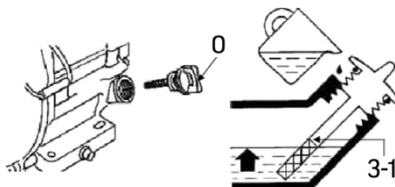

Fig. 3
3. Remove the dipstick (0) and wipe with a clean cloth (Fig. 3).
4. Insert the dipstick into the filler neck without screwing it in (Fig. 3).